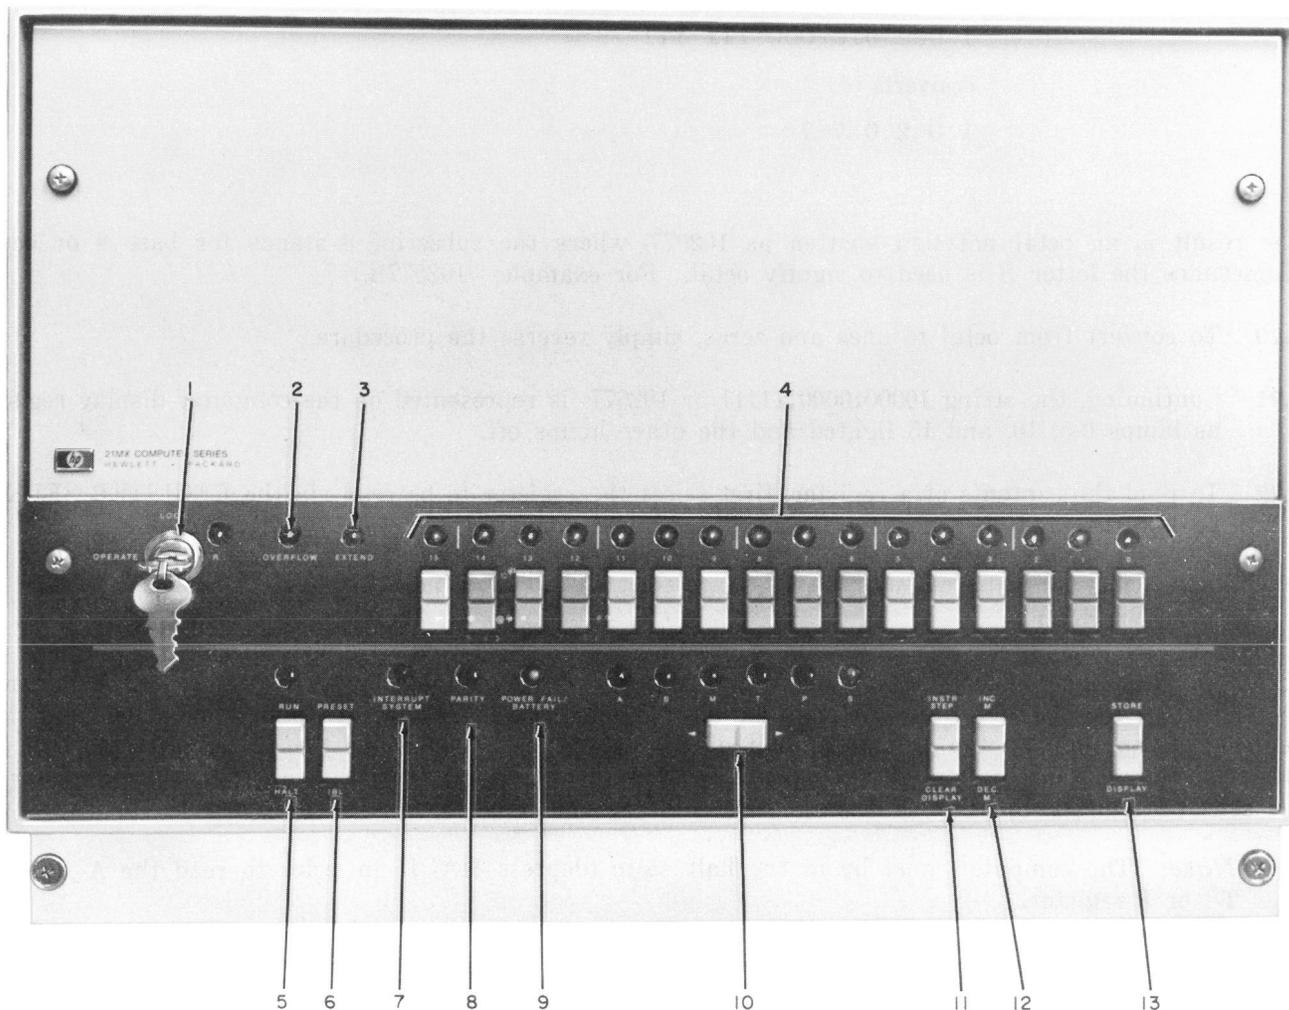

Fig. 4—HP Minicomputer
**2.14** Table D contains a functional description of the HP minicomputer controls and indicators. Note that there are two HP minicomputer models (HP 2112, HP 2113) which are being used in the TASC Systems. The difference in the controls and indicators is noted in Table D. Refer to Fig. 4 for an example of the HP minicomputer.